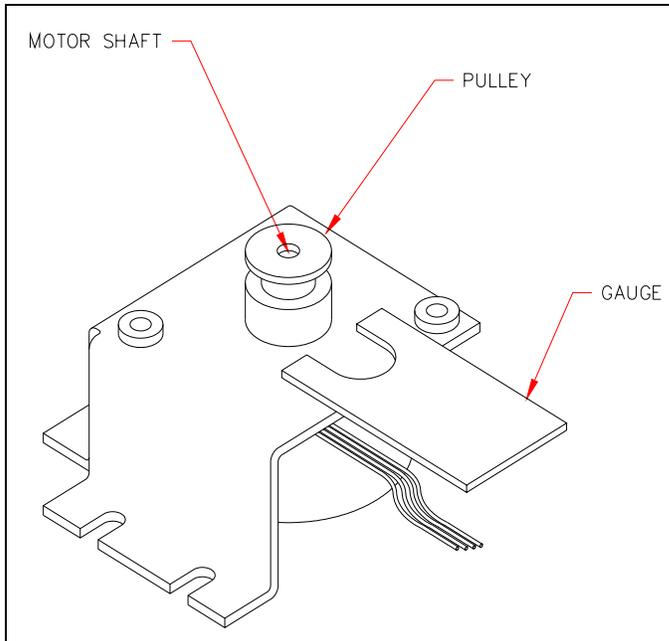

Figure 11-13 Motor and Pulley
- 4 Place the pulley on the motor shaft (Figure 11-13). Set the position of the pulley using the pulley gauge P/N AMFIX002. Fasten the pulley using the setscrew and Loctite #242.